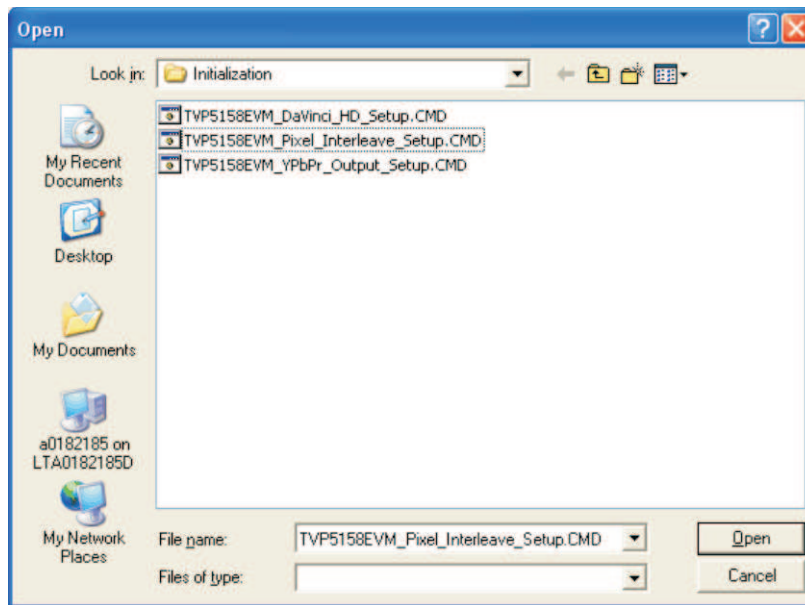

Figure 14. Browse to Command File
6. Click the Browse... button. The Open dialog box appears (see Figure 14). Double-click the file `TVP5158EVM_DaVinci_HD_Setup.CMD`
1. In the VCC System Initialization dialog box, click the Browse button. The Open dialog box shown in Figure 14 appears. Double-click the following file: